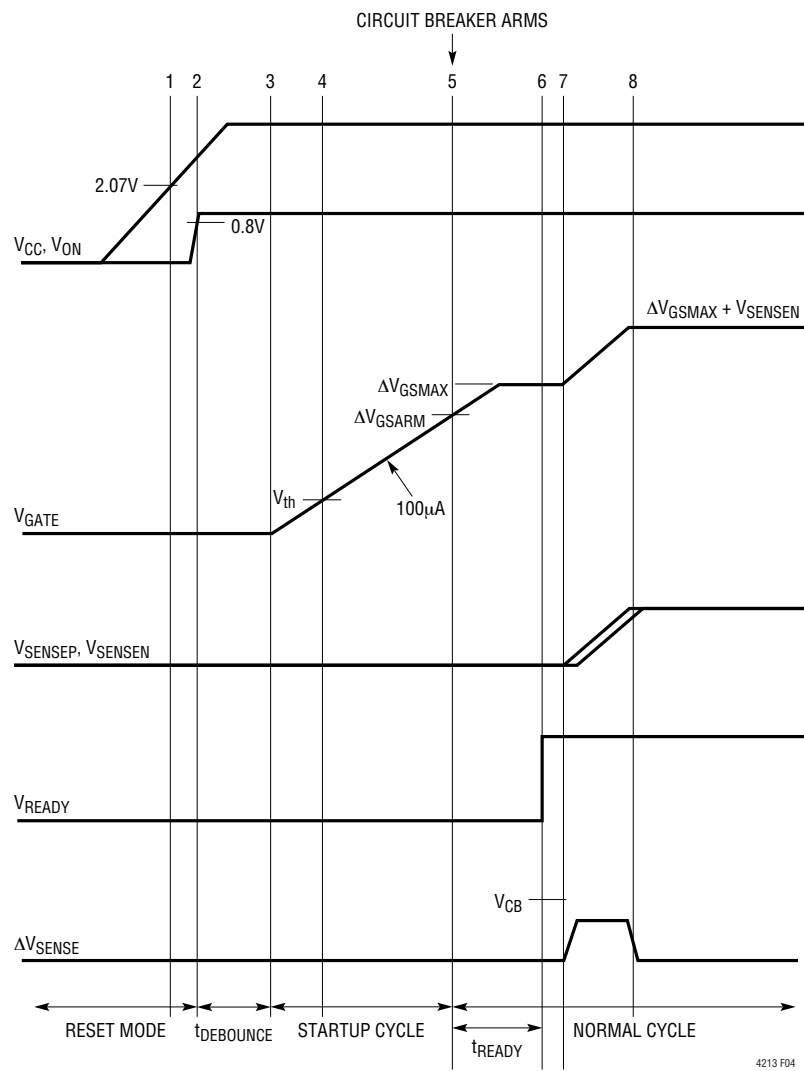

Figure 4. Load Supply Power-Up After Circuit Breaker Armed
Figure 4 shows a normal power-up sequence for the circuit in Figure 1 where the  $V_{\text{IN}}$  load supply power-up after circuit breaker is armed.  $V_{\text{CC}}$  is first powered up by an auxiliary bias supply.  $V_{\text{CC}}$  rises above 2.07V at time point 1.  $V_{\text{ON}}$  exceeds 0.8V at time point 2. After a 60 $\mu\text{s}$  debounce delay, the GATE pin starts ramping up at time point 3. The external MOSFET starts conducting at time point 4. At time point 5,  $V_{\text{GATE}}$  exceed  $\Delta V_{\text{GS ARM}}$  and the circuit breaker is armed. After 50 $\mu\text{s}$  ( $t_{\text{READY}}$  delay), READY pulls high by an external resistor at time point 6. READY signals the  $V_{\text{IN}}$  load supply module to start its ramp. The load supply begins soft-start ramp at time point 7. The load supply ramp rate must be slow to prevent circuit breaker tripping as in equation (8).